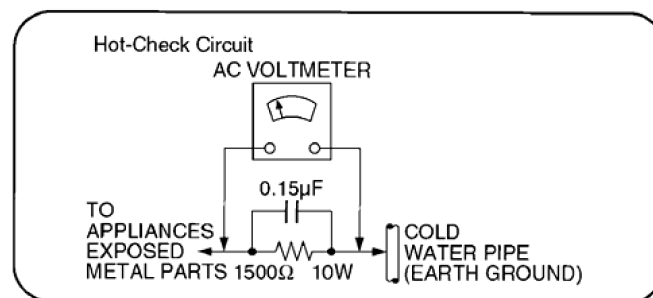

Figure 1
3.1.2. Leakage Current Hot Check (See Figure 1)
2. Connect a $1.5k\Omega$, 10 watts resistor, in parallel with a $0.15\mu F$ capacitor, between each exposed metallic part on the set and a good earth ground such as a water pipe, as shown in Figure 1.